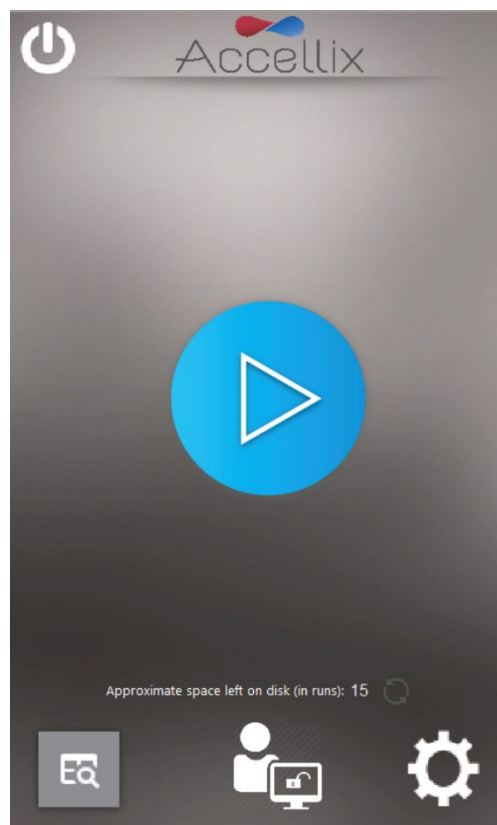

Figure 16: Home screen
2. Verify that system has successfully completed initialization, and that the **Home** screen (Figure 16), or the user login screen (Figure 5, if logins are enabled) appears on instrument display.
Note: The free space available on the instrument’s internal hard disk is displayed as a function of the total number of assays that can be run. Press the Refresh icon (🔄) located near the bottom of the display to refresh this number after manually deleting files (Figure 16).
1. Tap the **Administrator** icon  at the bottom center of the **Home** screen (Figure 16).